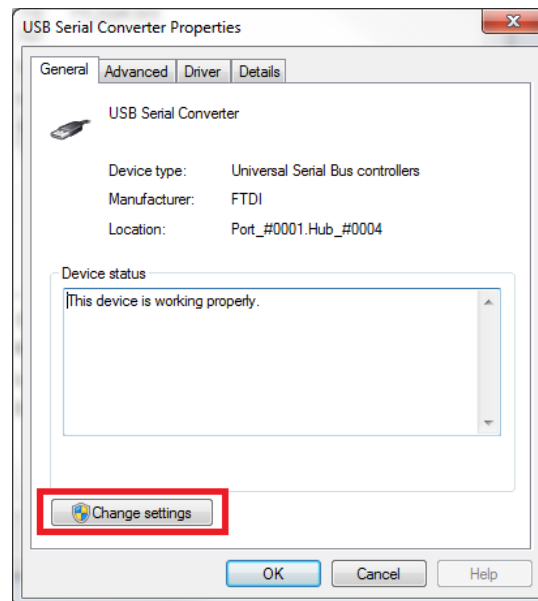

Figure 2-6. Change Settings Button For Hardware Properties
6. Click the **Change Settings** button, highlighted in Figure 2-6. Click **Yes** on the prompt for administrator privileges.